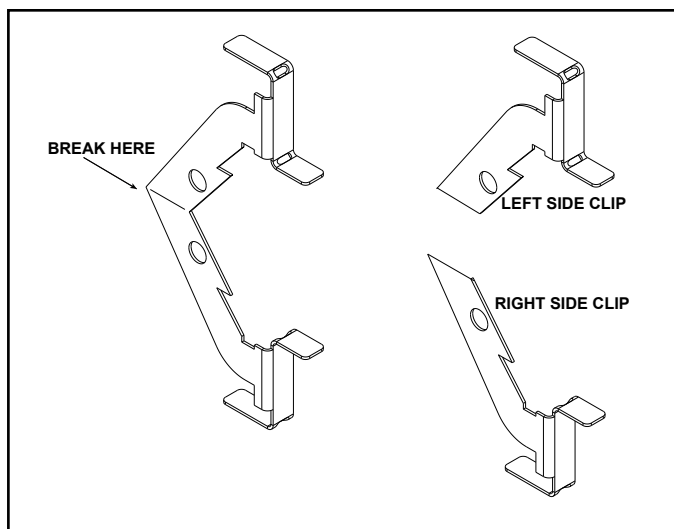

Figure 11.24 Glass Retaining Clip Separation
**Note:** The glass retaining clips ship from the factory as a pair. If using glass retaining clips for the first time, they will need to be broken apart. See Figure 11.24.